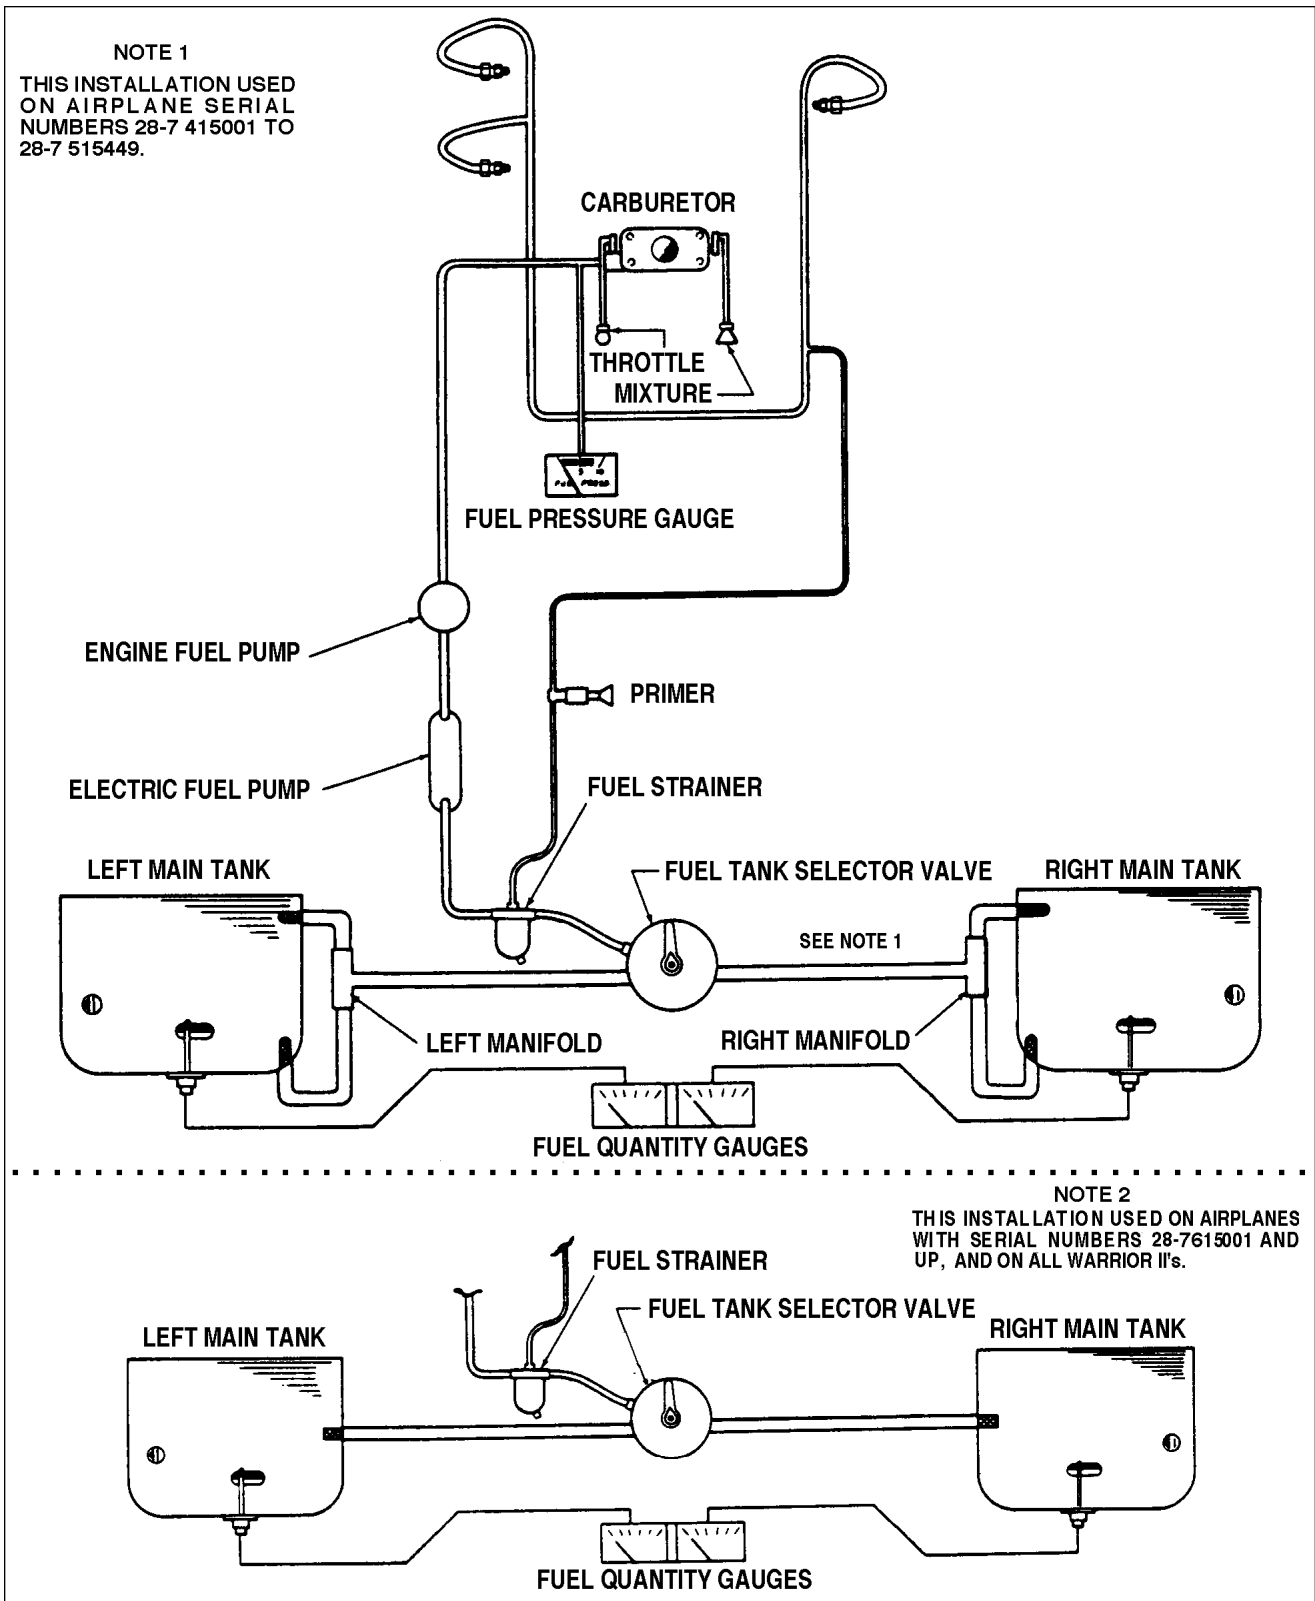

Figure 9-1. PA-28-151 and PA-28-161, Warrior II Fuel Systems Diagram
- a. PA-28-151, Warrior and PA-28-161, Warrior II. (Refer to Figure 9-1.)